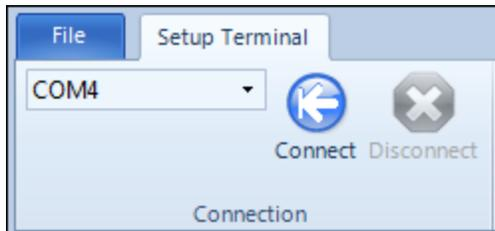

Figure 7: Tool Suite Connect button
5. In the top left of the window, click the drop-down list and select the Com port on the computer to which the radio is connected. Figure 7